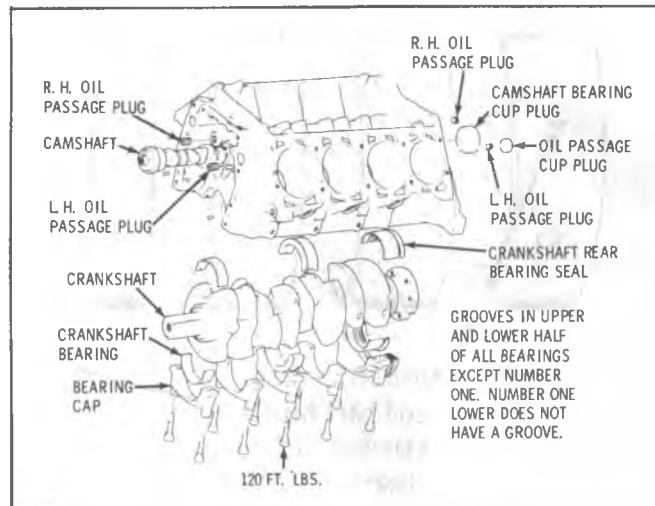

Fig. 6A6-94--Crankshaft-Exploded View
6. Torque all main bearing bolts to 120 lbs. ft. (163 N·m). (Fig. 6A6-94).